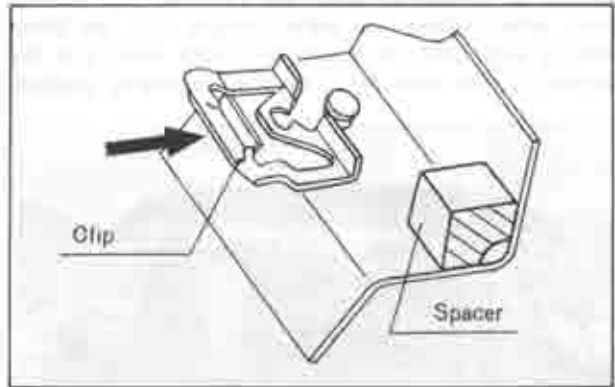

Fig. 14-29 Installing mould retaining clip
5. Insert each mould retaining clip to the clip insertion portion in the manner shown in Fig. 14-29: